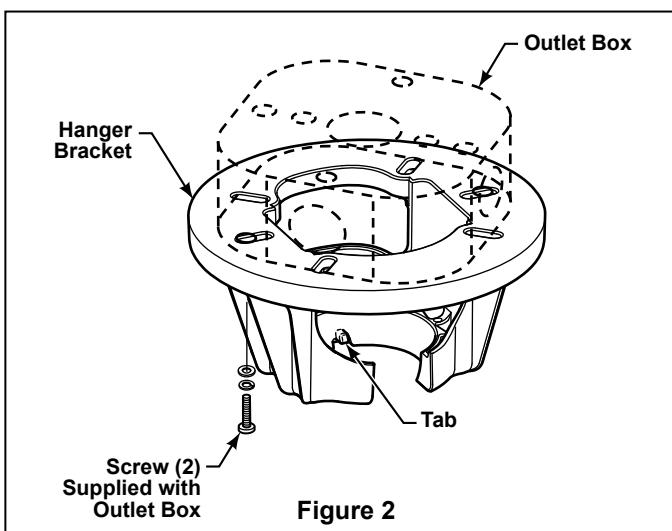
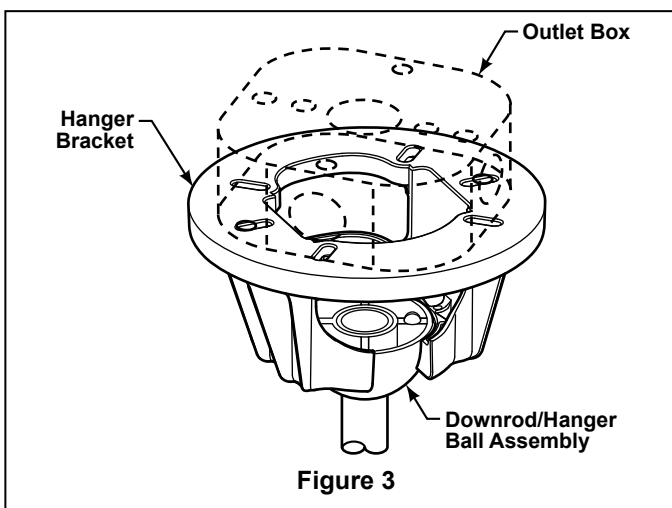

Figure 2
Figure 3
5. Route wires through Motor Coupling Cover (Fig 2) or the Decorative Sleeve (Fig 3) and through opening in Canopy. Position Canopy on fan shown with open side facing up. (Figure 4)
7. While pulling up on the hanger ball, securely tighten the two setscrews with nuts in the downrod support. (Figure 2 & 3)
8. Slide the Motor Coupling Cover (Fig 2) or the Decorative Sleeve (Fig 3) down until it touches the top of the Housing.
1. Securely attach the hanger bracket to the outlet box using the outlet box screws and washers supplied with the outlet box (Figure 2).
NOTE: Outlet box screws pass through slotted holes of the hanger bracket (Figure 2).
3. Carefully lift the fan and seat the downrod/hanger ball assembly on the hanger bracket that was just attached to the outlet box (Figure 3). Be sure the groove in the ball is lined up with tab on the hanger bracket (Figure 2).
- Slide Receiver Unit into the Hanger Bracket (Fig 2).
- Connect wires as indicated: (Figure 3)